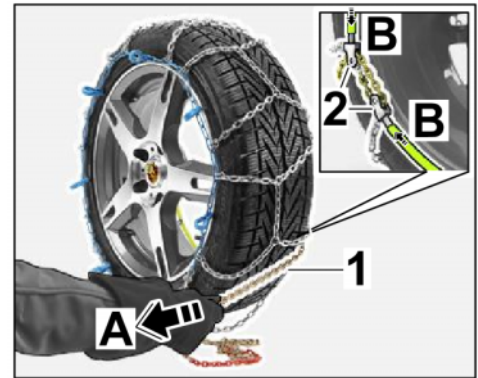

Figure 8
2.2.3 Grasp tensioning chain in the wheel running surface area and pull it firmly. (⇒ *Figure 8-A-*).
The spring steel clip on the inside of the wheel closes (⇒ *Figure 8-B-*).